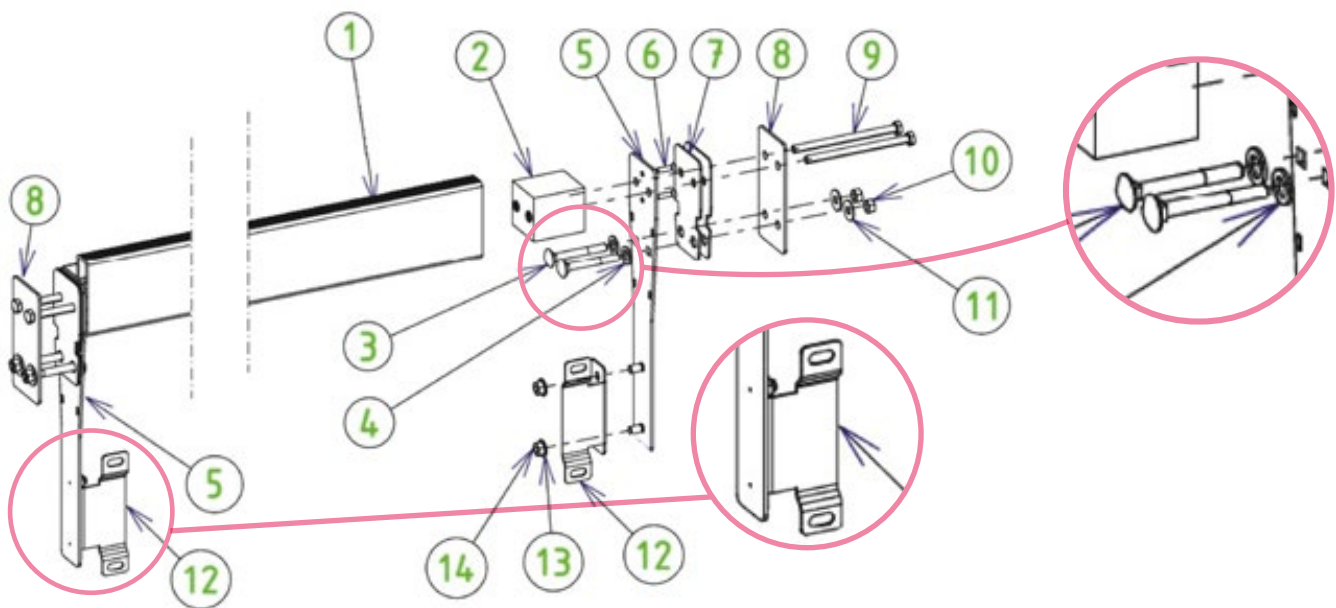

Figure 42 – Assembling and mounting the beam
The beam assembly steps are illustrated in *Figure 42*. The screws required for assembly are enclosed in bag Y. In this figure, the wooden wall is located between parts 7 and 8, and the liner is sandwiched between the two rubber gaskets (7).
**! The rubber washers (4) are required to ensure that the pool is leaktight.**
Fasten the two pit wall mounting brackets (12) to the beam mounting plates (5) using four nuts (14) and four 8 mm diameter A4 SS washers (13). The protruding parts of the pit wall mounting brackets (12) that feature a slot should be located on the side opposite the skimmer and the automatic cover axle (see the zoom focused on the pit wall mounting brackets (12) in *Figure 42*.
Lastly, fasten the pit wall to the brackets (part 12 in *Figure 42*) using four 8 × 16 stove screws (7), four washers and four 8 mm diameter A4 SS nuts.